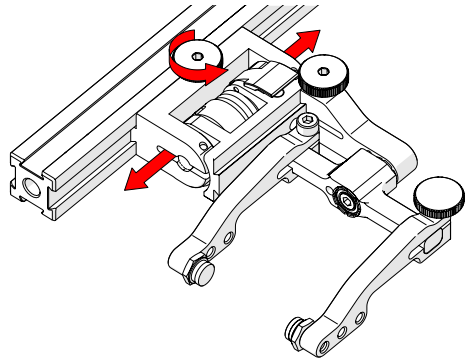

Fig. 147 - Adjust on frame bar
2. Use the probe holder adjustment knob to position the probe holder along the frame bar (Fig. 147).